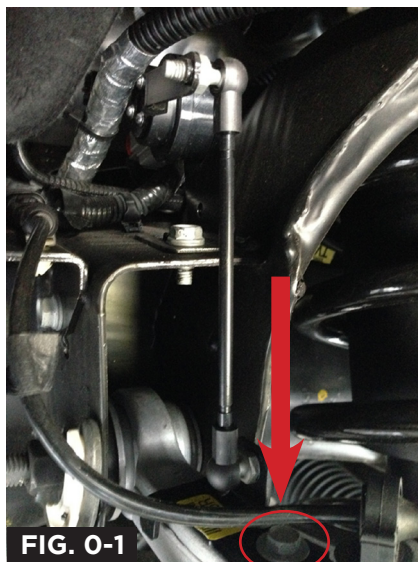

FIG. 0-1
2. Temporarily disconnect linkage from upper control arm bracket with 10mm open-end wrench. **(Fig 0.1)**